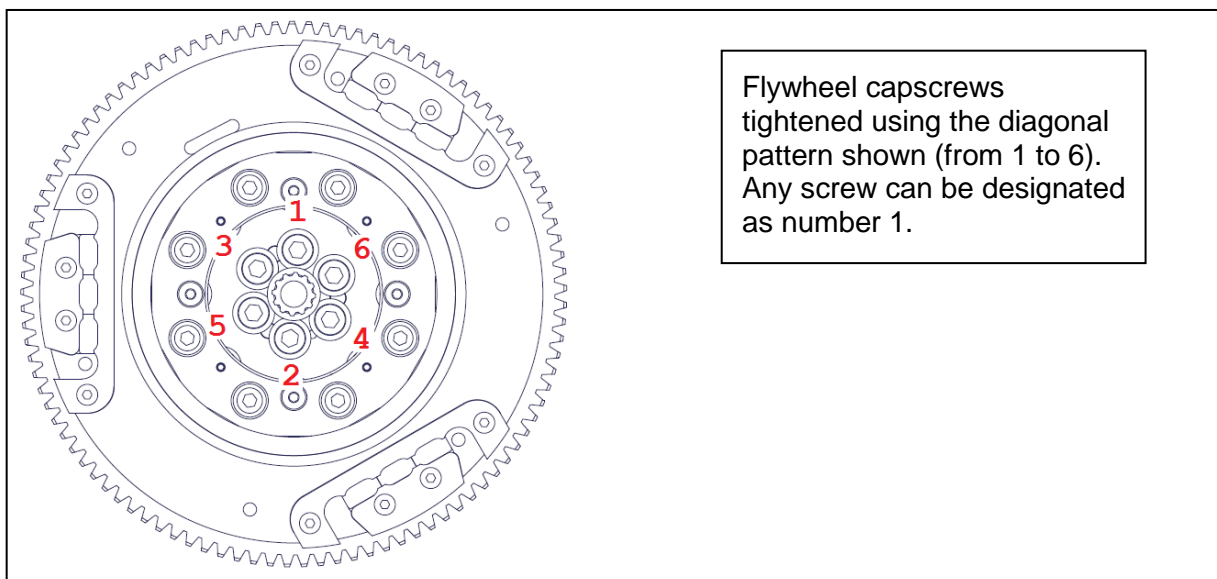

Figure 181 - Flywheel diagonal tightening pattern
- 1) Install the six capscrews with one plain washer up to **15 ft.lb** torque setting using the diagonal tightening pattern shown in Figure 181.
- 2) Tighten all six screws up to **Prescribed Torque setting** (Table 9) again using the diagonal tightening pattern in Figure 181.
- 6) Repeat previous three steps installing the other five screws ONE AT A TIME using the diagonal pattern order shown in Figure 181.
Install capscrews with 6 old plain washers to **15ft.lb** and then the **Prescribed Torque** (Table 9) progressively using diagonal pattern shown in Figure 181
Repeat for the other five screws ONE AT A TIME using the diagonal pattern shown in Figure 181